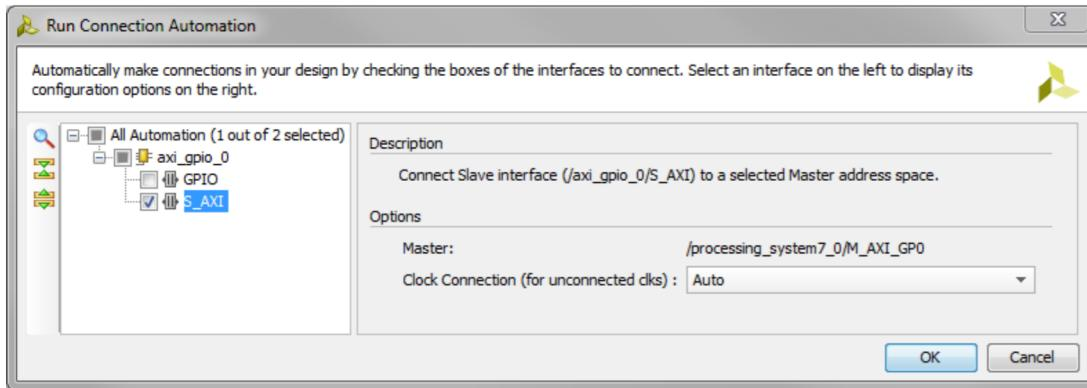

Figure 1.17: Run Block Automation - GPIO Block
- (g) Click **Run Connection Automation** from the *Designer Assistance* message at the top of the *Diagram* window and select **/axi_gpio_0/S_AXI**, as shown Figure 1.17.